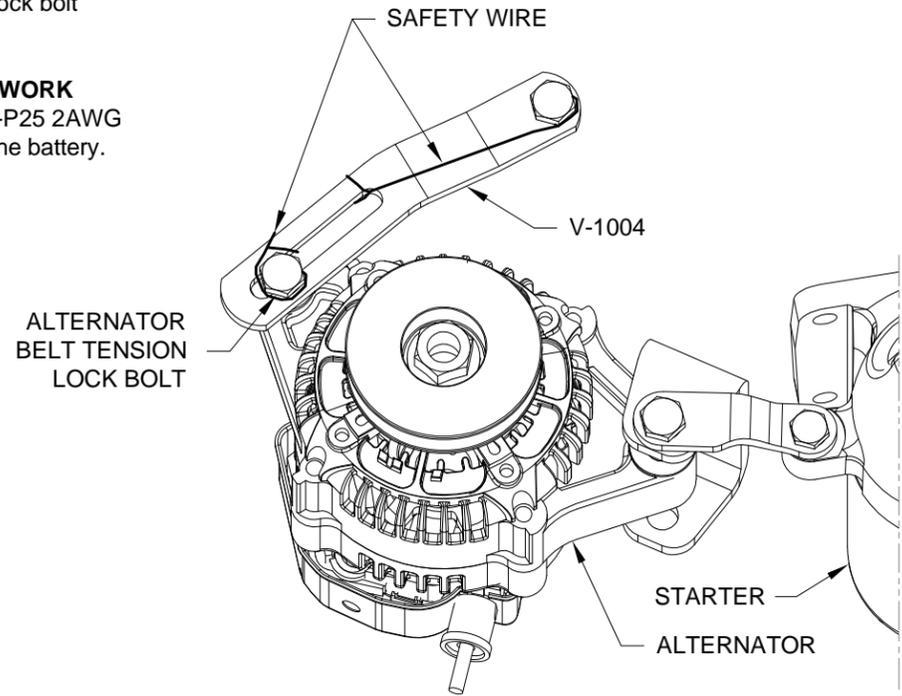

FIGURE 3: ALTERNATOR
Step 5: Secure the alternator belt tension lock bolt with safety wire as shown in Figure 3.